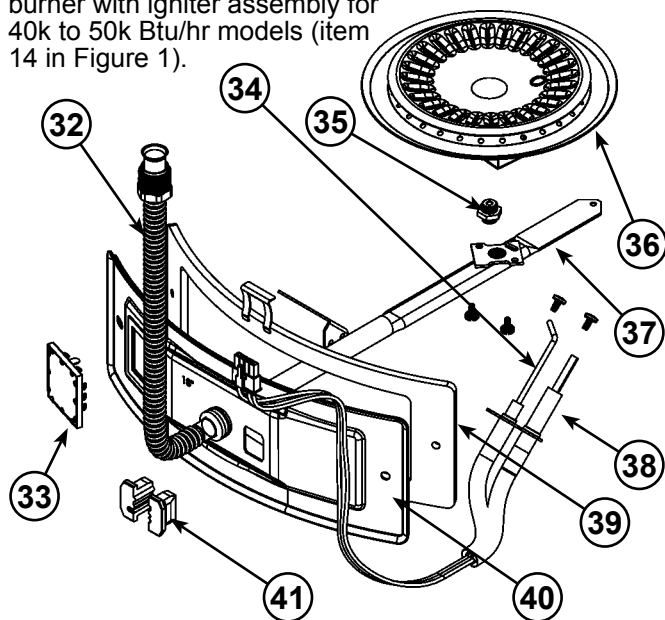
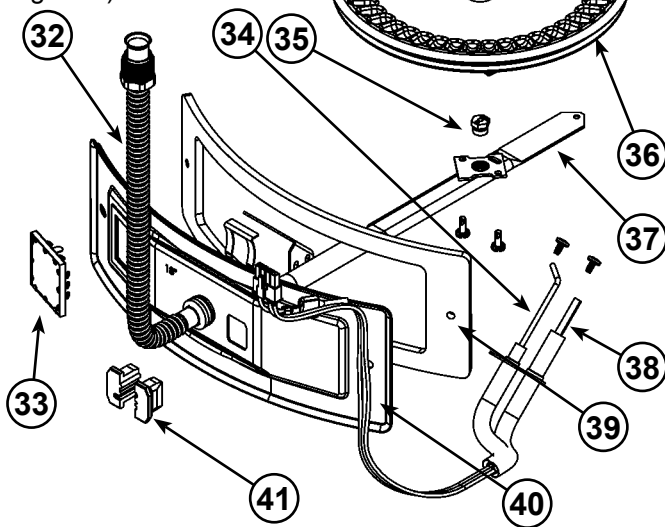
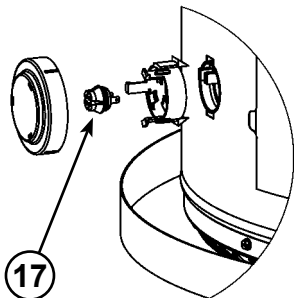
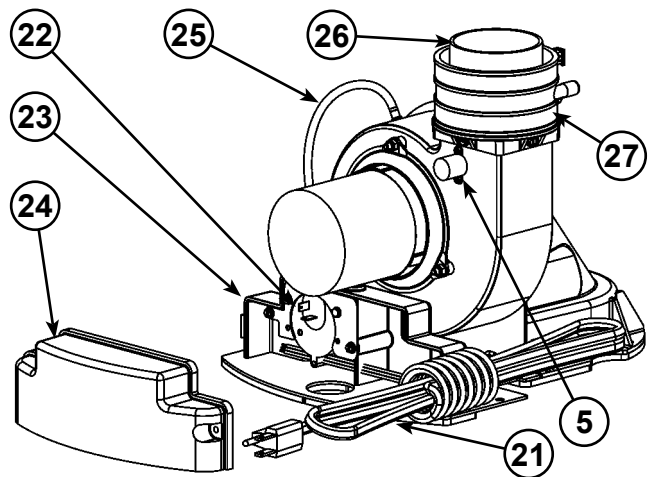

Figure 3.
Figure 4.
Figure 5.
Figure 6.
| 1 Vent Termination Elbow with Rodent Screen | 18 **Combo Heating System Return Inlet (Optional) | 35 Gas Orifice (see Figure 3 & Figure 4) |
| 2 *Vent Pipe | 19 Air Inlet Snorkel | 36 Sheet Metal Burner (see Figure 3 & Figure 4) |
| 3 *Vent Pipe Coupling (if required) | 20 **Combo Heating System Supply Outlet (Optional) | 37 Gas Manifold (see Figure 3 & Figure 4) |
| 4 *Vent Pipe Elbow (long radius) | 21 Blower with Power Cord (see also Figure 6) | 38 Hot-Surface Igniter (see Figure 3 & Figure 4) |
| 5 Blower High Limit Switch (see Figure 6) | 22 Air Switch (inside box) (see Figure 6) | 39 Manifold Door Gasket (see Figure 3 & Figure 4) |
| 6 T&P Valve | 23 Junction Box (see Figure 6) | 40 Manifold Door (see Figure 3 & Figure 4) |
| 7 Cold-Water Inlet Nipple/Diptube | 24 Junction Box Cover (see Figure 6) | 41 Two Piece Grommet With Clip (see Figure 3 & Figure 4) |
| 8 Baffle Assembly | 25 Air Tubing (see Figure 6) | 42 *Inlet Water Shut-off Valve |
| 9 * Discharge Pipe | 26 Rubber Coupling (see also Figure 6) | 43 *Gas Supply* |
| 10 Gas Control Valve/Thermostat (Honeywell) | 27 Gear Clamp (see also Figure 6) | 44 *Main Manual Gas Shut-off Valve |
| 14 Manifold Door Assembly (behind outer door) (see Figure 3 & Figure 4) | 31 ***Control Harness | 48 Rating Plate |
| 15 *Floor Drain | 32 Flexible Manifold Tube (see Figure 3 & Figure 4) | 49 *Thermal Expansion Tank (required for all closed systems) |
| 16 *Metal Drain Pan | 33 Viewport (see Figure 3 & Figure 4) | |
| 17 Flammable Vapor Sensor (under cover) (see Figure 5) | 34 Flame Sensor Rod (see Figure 3 & Figure 4) | |
This device is located on the blower (see Figure 6, item 5) and limits the maximum temperature of the blower. If the blower temperature rises above the temperature setting, the switch opens causing the heater to shut down. The switch will auto reset once the temperature drops sufficiently.
This device, located in the junction box, monitors the air pressure produced by the blower. In the event that the exhaust venting becomes blocked or sufficiently restricted, the switch will shut the heater down (see Figure 6, item 22).